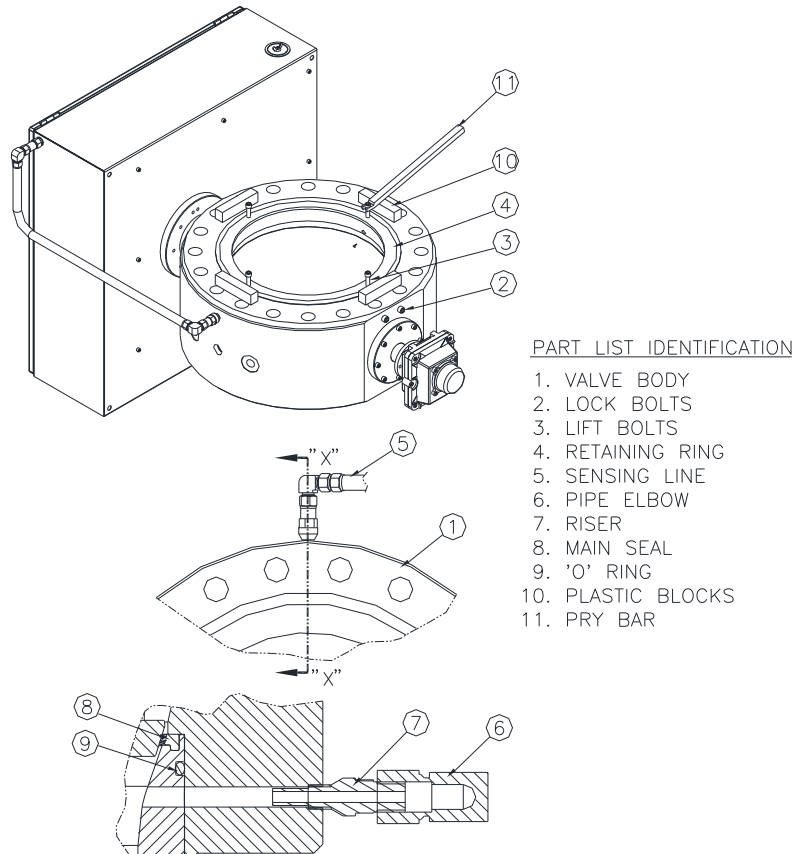

Figure 7 Alternate - Typical Seal Replacement.
BPIV Seal Replacement Procedure (Ref Fig.7 Alternate)
2. Place the valve assembly on a suitable work surface with the inlet facing up, refer to Figure 7 Alternate.
6. Follow steps (a) through (o) to replace the main seal (Item 8) (refer to Figure 7 Alternate).